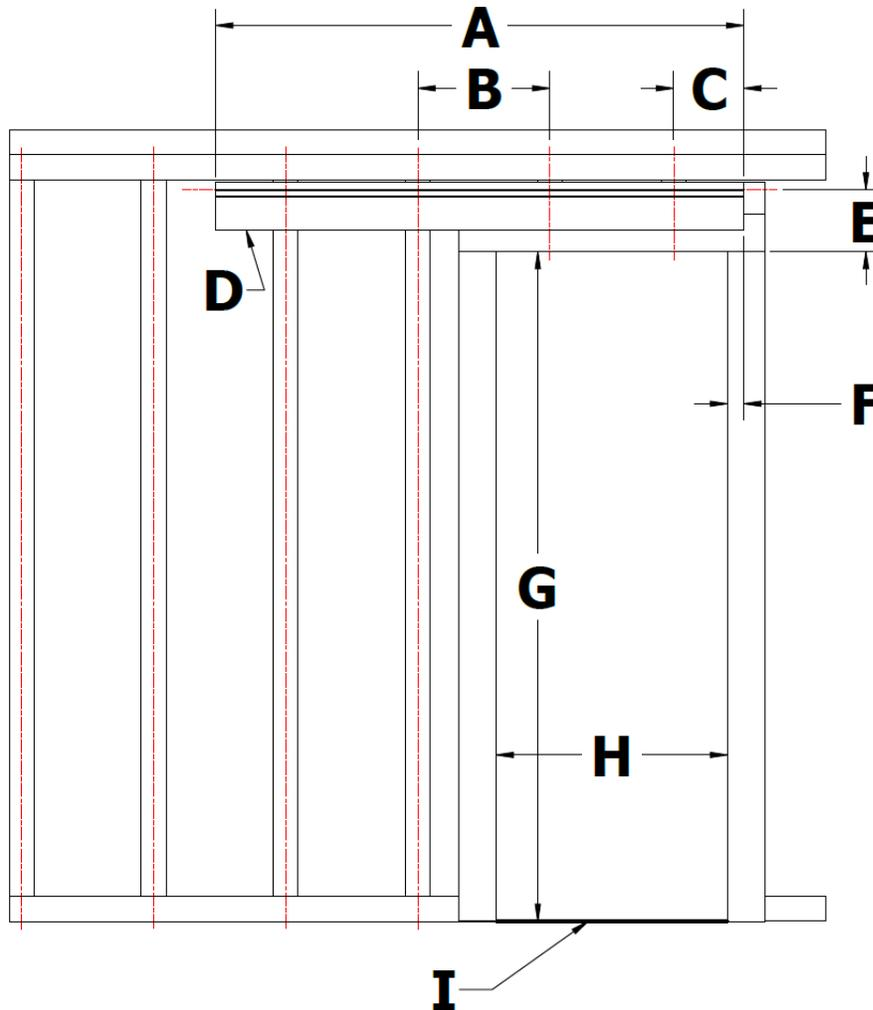

Figure 1
- While keeping the track level, layout the location of the track on the wall. See Figure 1.